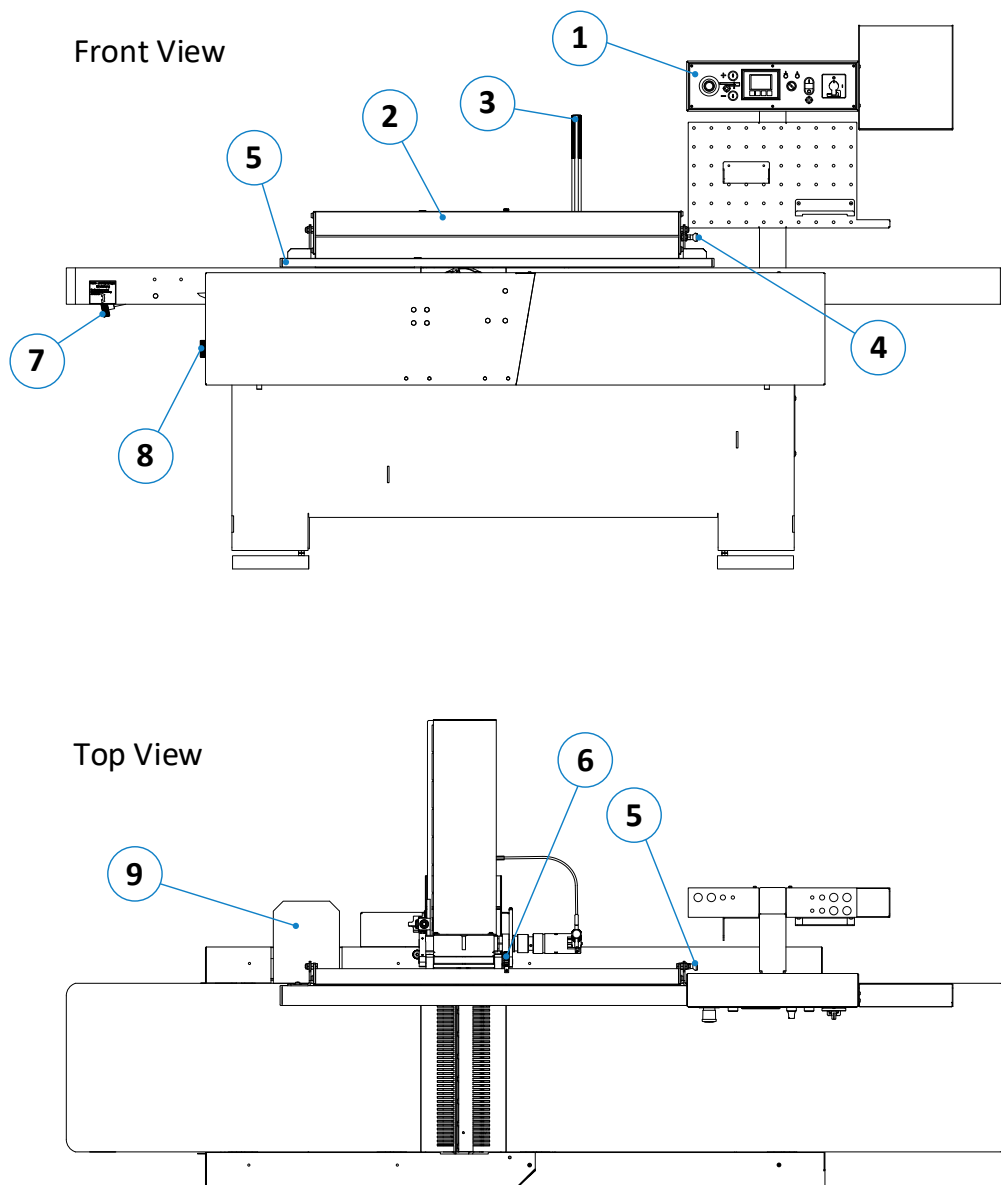

Figure 13: Components & controls (front view)
This section shows a detailed view of the control panel (1) shown in ⇒ Figure 13. This large view provides a better illustration of the respective operating elements.